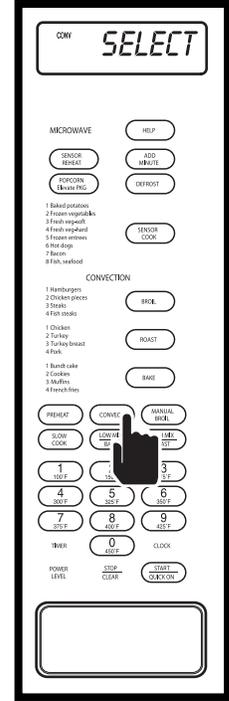

Figure 3-77.
3. Press CONVEC key, "SELECT - TEMP" will flash on display. (See Figure 3-77)